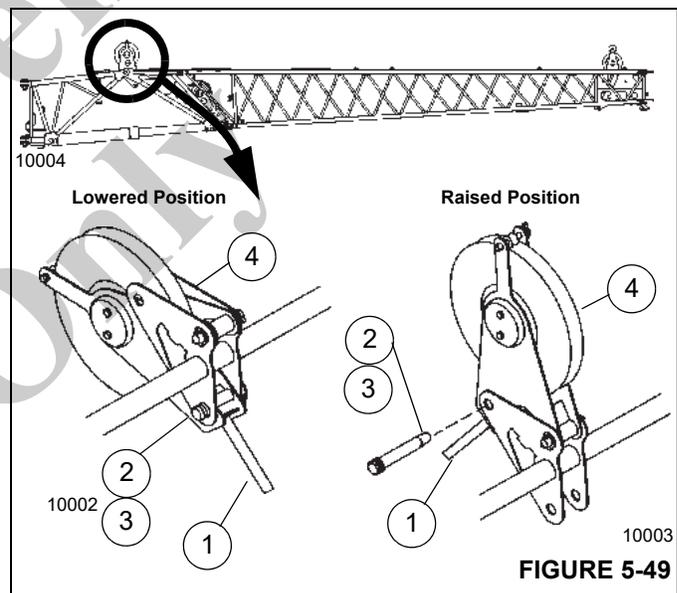
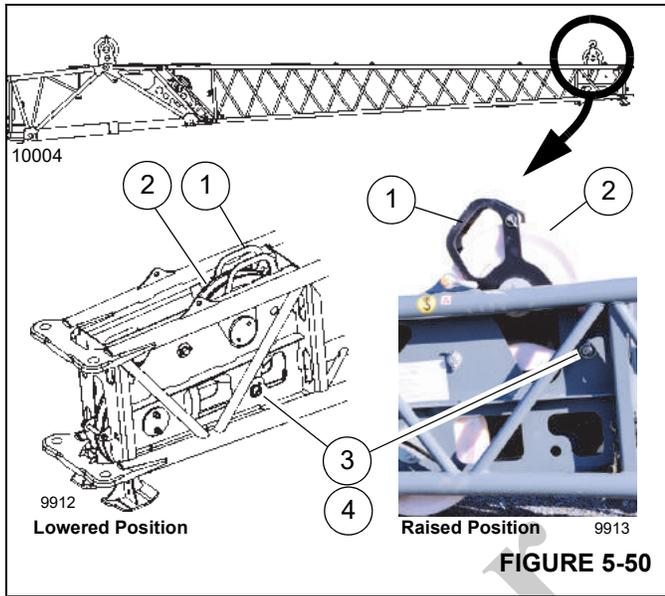

FIGURE 5-49
FIGURE 5-50
- a. Hold the handle (1, Figure 5-49) and remove the retaining clip (2) and pin (3).
- b. Raise the mast (4). Make sure the connecting point holes are aligned.
- c. Insert pin (3). Secure the pin with retaining clip (2).
- a. Hold the handle (1, Figure 5-50) of the mast sheave assembly (2). Remove retaining clip (3) and pin (4).
- b. Raise the mast assembly (2) until the connecting holes are aligned.
- c. Insert pin (4) and secure with retaining clip (3).
- b. Lower the mast (4). Make sure the connecting point holes are aligned.
- c. Insert Pin (3). Secure the pin with retaining clip (2).
- a. Hold the handle (1, Figure 5-50) of the mast sheave assembly. Remove retaining clip (3) and pin (4).
- b. Lower the mast assembly (2) until the connecting holes are aligned.